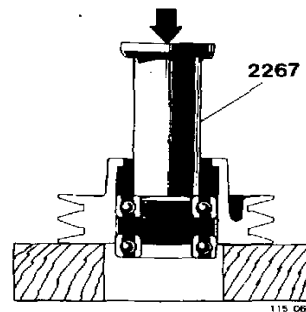

Fig. 197. Removing the bearings
11. Place the pulley as shown in fig. 197 and press out the bearings using the drift 2267.